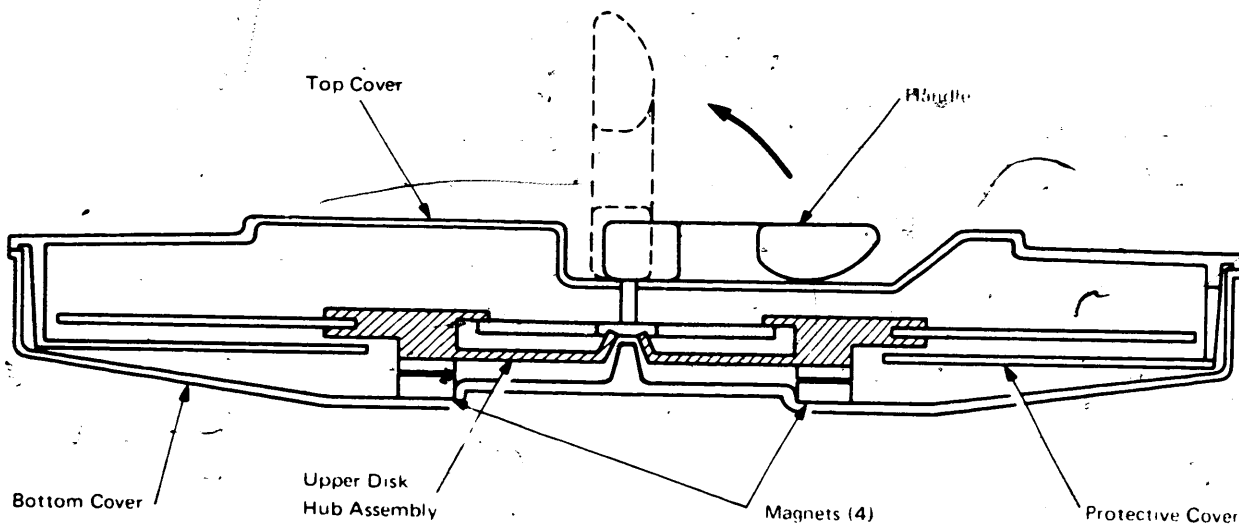
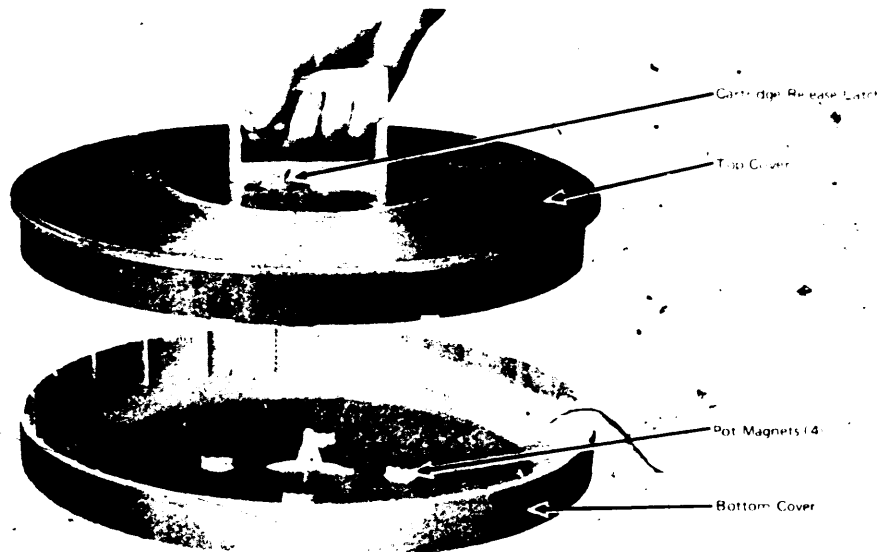

Figure 1-10. 5440 Disk Cartridge [07470A]
Figure 1-13. Cartridge Handle and Release Latch [07473A]
- The removable upper disk on its hub assembly is permanently enclosed in the 5440 Disk Cartridge (Figure 1-10) Fr. B18 to protect the recording surfaces.
For storage, the removable disk is placed in the cartridge bottom cover; the armature ring clamps onto four magnets (see Figure 1-13) Fr. C02 to seal the cartridge covers. An index slot in the armature ring is used with a transducer to provide an index pulse to indicate the start of each recording track on the upper disk.
When removed from the machine, the top cover is placed in a bottom cover (see Figure 1-10). Four pot magnets, set into the bottom cover (see Figure 1-13), clamp the hub assembly to the bottom cover.
To release the disk, the handle is lifted and at the same time the cartridge release latch (Figure 1-13) must be held against its spring; rotation of the handle then forces